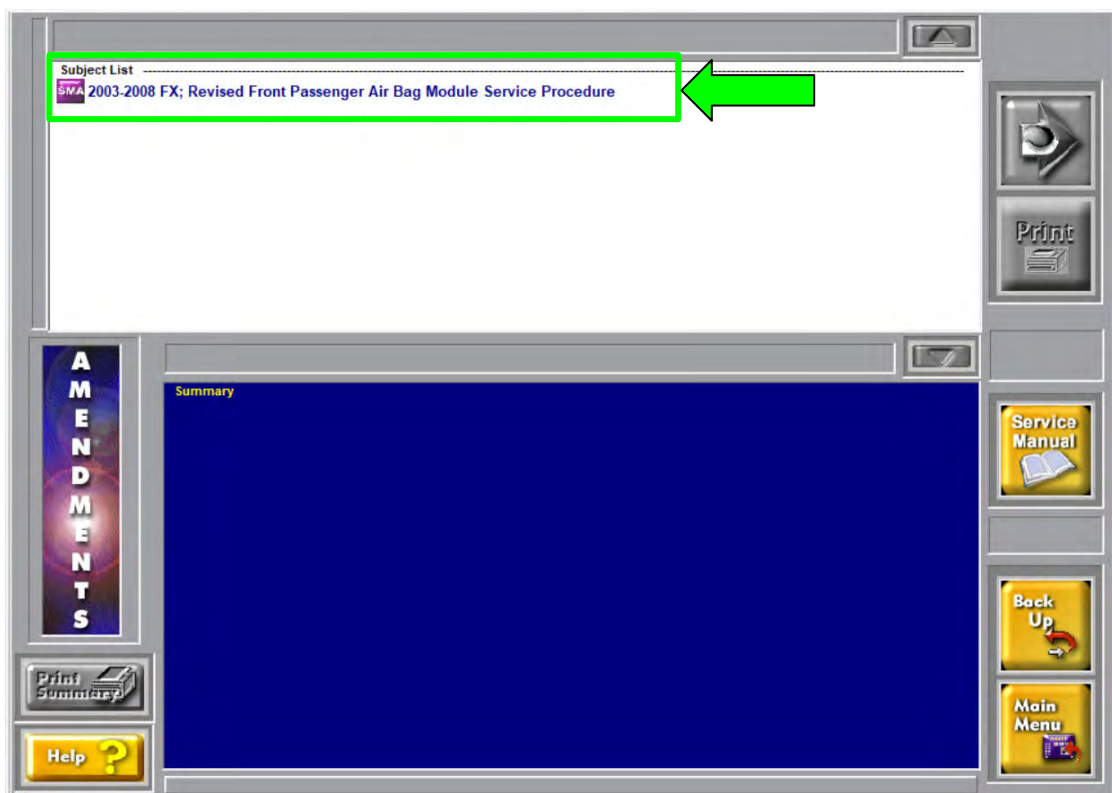

Figure 10
- o On the next screen, select **SMA 2003-2008 FX; Revised Front Passenger Air Bag Module Service Procedure** (Figure 10).